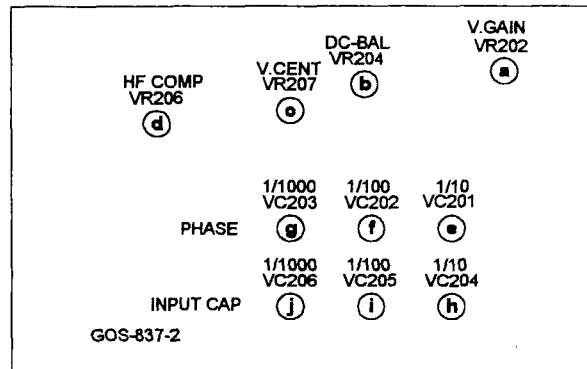

Fig. 19. Vertical circuit board. for each of the vertical
2. Adjust the DC BAL potentiometers (pots) VR201 (see Fig. 1 (14)) and VR204 (see Fig. 19 (b)) until the trace does not shift when the VERT.VAR. control is turned.
2. Adjust HF COMP pot VR206 (see Fig. 19 (d)) so that the display has flat extremes as shown in Fig. 15.
4. Adjust the V.GAIN pot VR202 (see Fig. 19 (a)) so that the observed waveform is exactly 5 divisions high.
2. Adjust the internal V.CENT pot VR207 (see Fig. 19 (c)) to center the trace on the screen.
1. Six frequency compensation trimmers are in the scope, two for each of the vertical deflection ranges 5V/div, 0.5V/div and 50mV/div. VC201, VC202 and VC203 are for direct input compensation (1:1) and VC204, VC205 and VC206 are for compensation using the 10:1 attenuator input probe. (see Fig. 19) Optimum compensation is obtained when the VERT. VAR. control is fully clockwise in the CAL position. Since compensation of the 3 Vertical ranges is necessary, square waves of different amplitudes will be necessary. The square waves should be at a frequency of 1kHz and be of good quality with flat amplitude extremes.
3. Adjust VC201 (see Fig. 19 (e)) for flat extremes on the square wave. See Fig. 15 for representative waveforms.
5. Adjust VC202 (Fig. 19 (f)) for flat extremes on the square wave. see Fig. 15 for representative waveforms.
7. Adjust VC203 (Fig. 19 (g)) for flat extremes on the square wave. See Fig. 15 for representative waveforms.
8. For 10:1 compensation use the 10:1 attenuator probe and repeat steps 2 through 7 above multiplying the required square wave input amplitude by 10 and adjusting VC204 (Fig. 19 (h)) for step 3, VC205 (Fig. 19 (i)) for step 5 and VC206 (Fig. 19 (j)) for step 7.